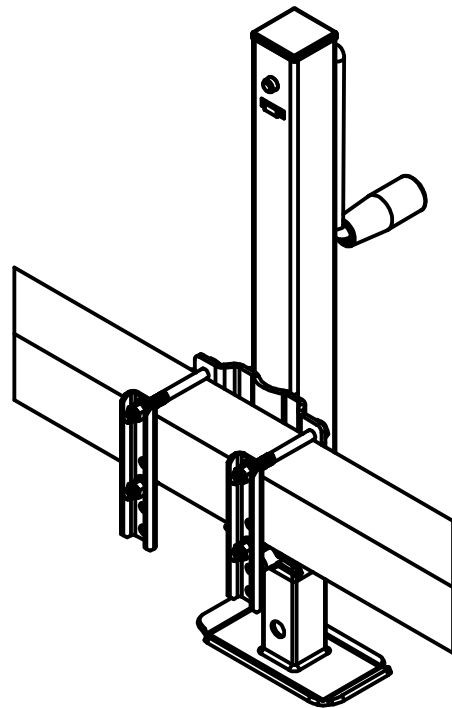

FIGURE 2: BOLT ON JACK
2. Insert the 4 bolts through the mounting brackets. The upper bolts should rest on top of the tongue (See Figure 2). The lower bolts should be less than 1/16" from the bottom of the tongue.